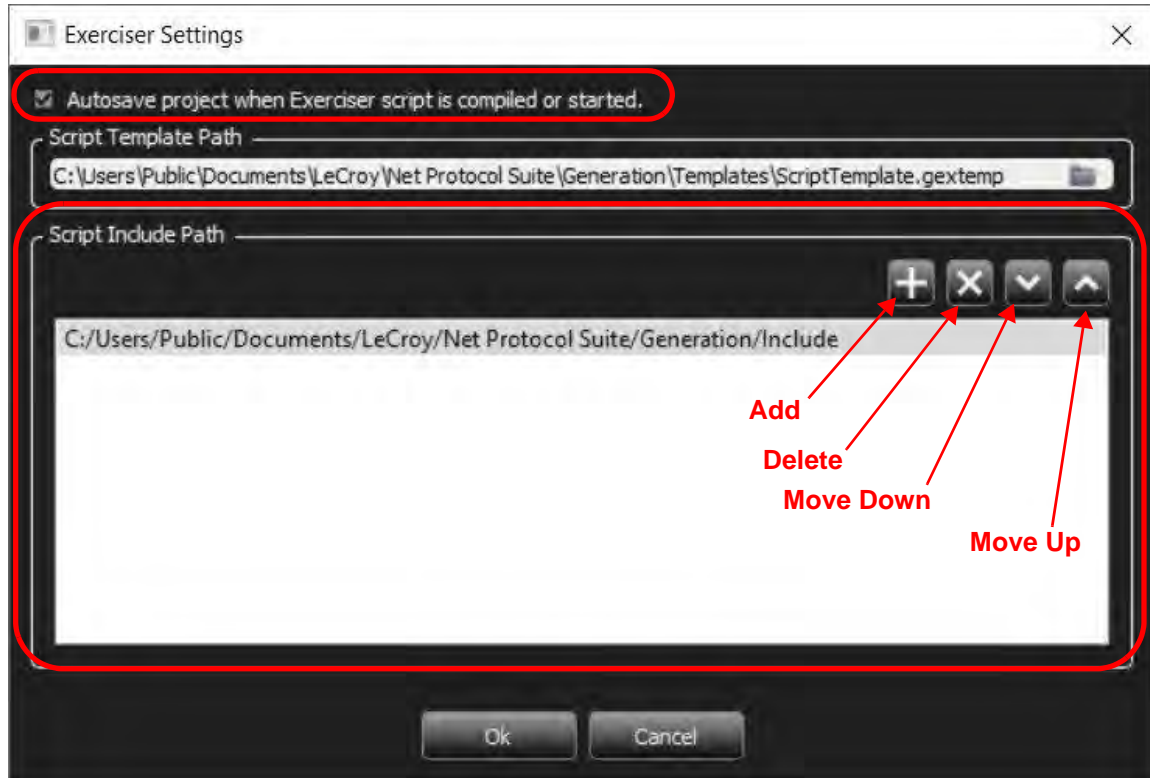

Figure 8.24: Exerciser Settings: User Include Path
- ❑ Settings (see Figure 8.24)